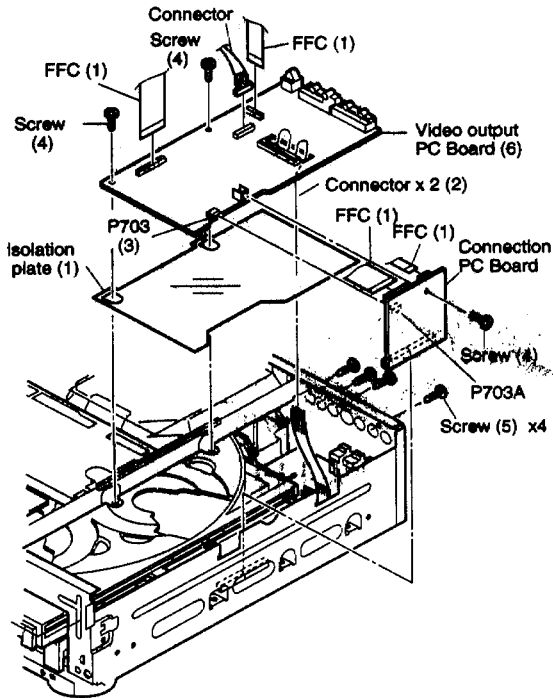

Fig. 2-1-7
1. Remove the isolation plate (1). (Refer to Fig. 2-1-7)
2. Disconnect two connectors (2).
3. Remove three screws (3).
4. Remove two screws (4).
5. Remove the audio output PC board (5).